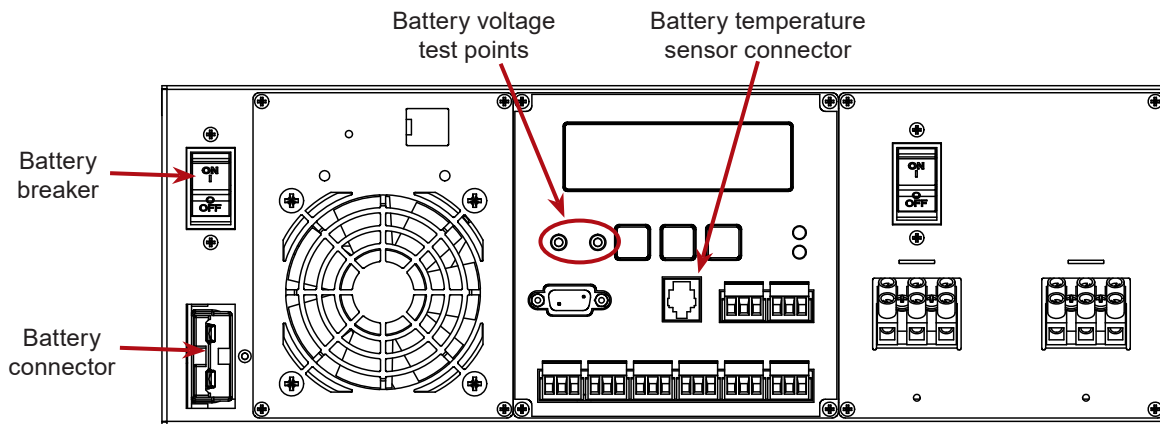

Figure 18 — FXM 1100 Front Panel
8. Connect the external batteries to the Battery connector on the FXM UPS—see Figure 18.